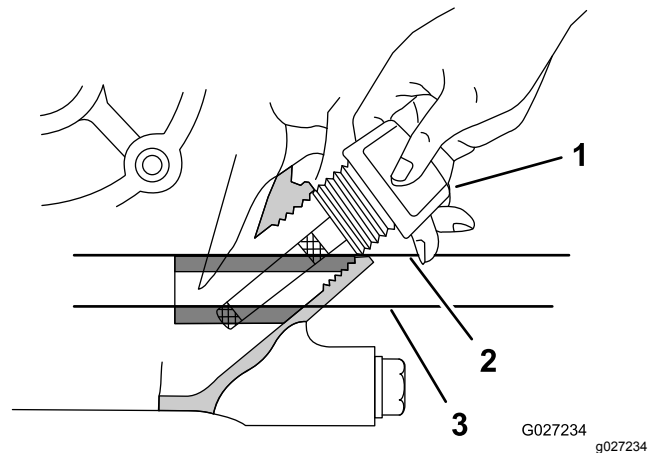

Figure 16
3. Insert the dipstick from the engine as shown in Figure 16.